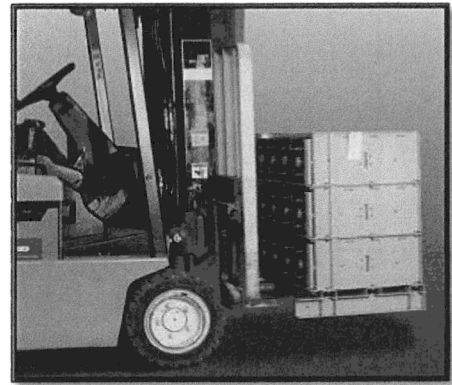

Figure 6-1 Installation Using Forklift
- 2) Install the floor-mounting base. Depending on the system configuration and handling capabilities, the mounting base may already be assembled with stacked modules. See Figure 6-1
- b) Floor mounting base assembled with stack modules: Assemblies up to four (4) tiers may be carefully moved assembled with the use of a fork lift, pallet jack or other suitable lifting device; see Figure 6-1.